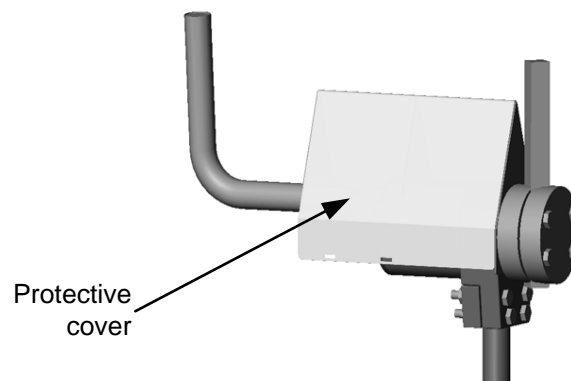

Figure 4: Protective cover placed over the sensor body
- A protective cover can be placed over the Head Unit to protect the sensor from falling materials and prevent unnecessary build-up of materials on the Head Unit (Figure 4).